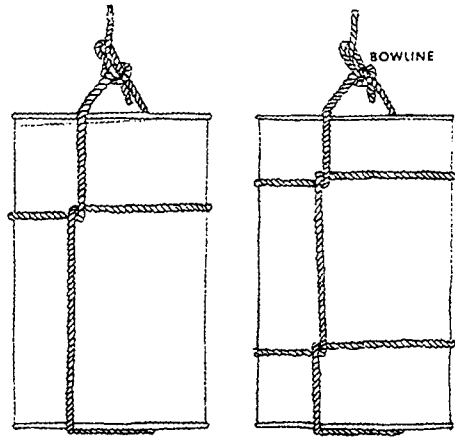

Fig. 7-1g Barrel sling
- g. Barrel slings are designed specifically for handling barrels similar to oil barrels. This style of drum has a chime and chime hoops that are designed to withstand the force applied during hoisting. If the condition of the barrel is in doubt use of a choker sling or rigging a barrel hitch is recommended instead of the barrel sling (See **Figure 7-1g.**)